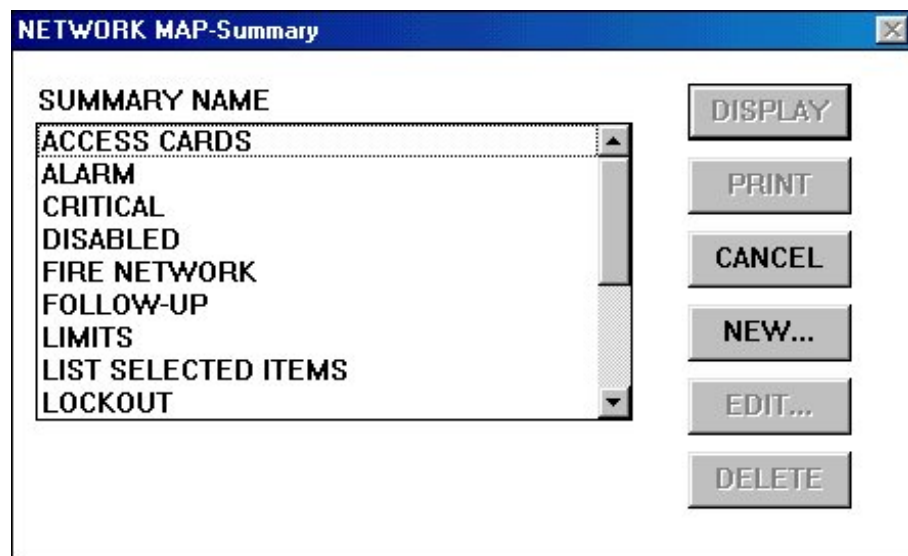

Figure 9-12: Network Map-Summary Dialog Box
2. Click Summary. The Network Map-Summary dialog box appears (Figure 9-12).